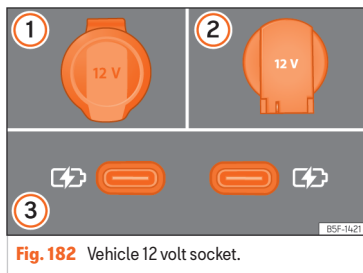

Fig. 182 Vehicle 12 volt socket.
»» Fig. 182
Depending on the equipment and the country, the vehicle may also have USB connections **exclusively for charging or as a power socket** >>> Fig. 182 (3).